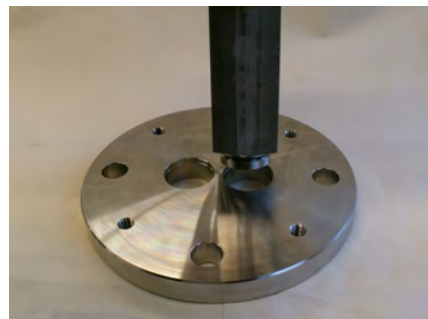

Fig. 67: Insert device body (bypass)
- 17.** ▶ Insert the device body (bypass) onto the connecting flange (input) (Fig. 67)